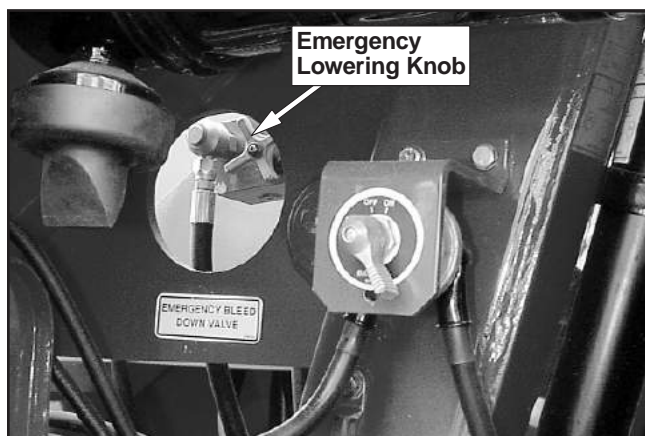

Figure 7.15—Emergency Lowering Knob
1. Use the lower controls to raise the main boom boom until the emergency lower knob is visible in the access hole as shown in Figure 7.15.